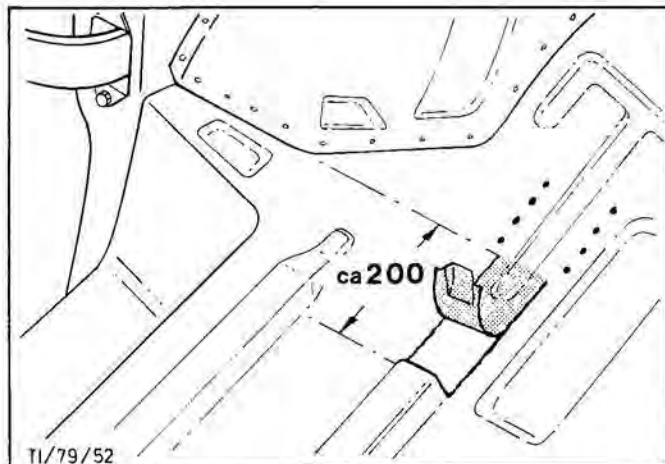

Fig.88. Drill out spot welds, chisel open and bend up floor panel.
5. From passenger compartment, chisel open and bend up floor panel over side member, Fig.88.